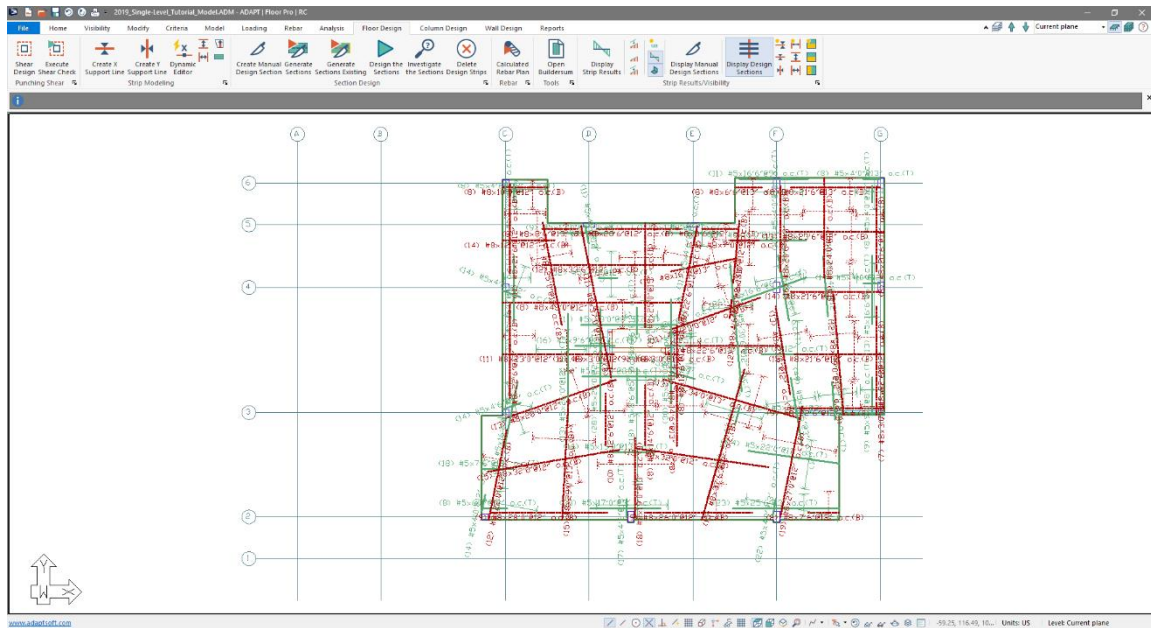

Figure 7-26
- Click the *OK* button as we will generate the Envelope rebar needed to satisfy all design criteria with the default options of the program. When done the users' screen should be similar to that shown in **FIGURE 7-26**.